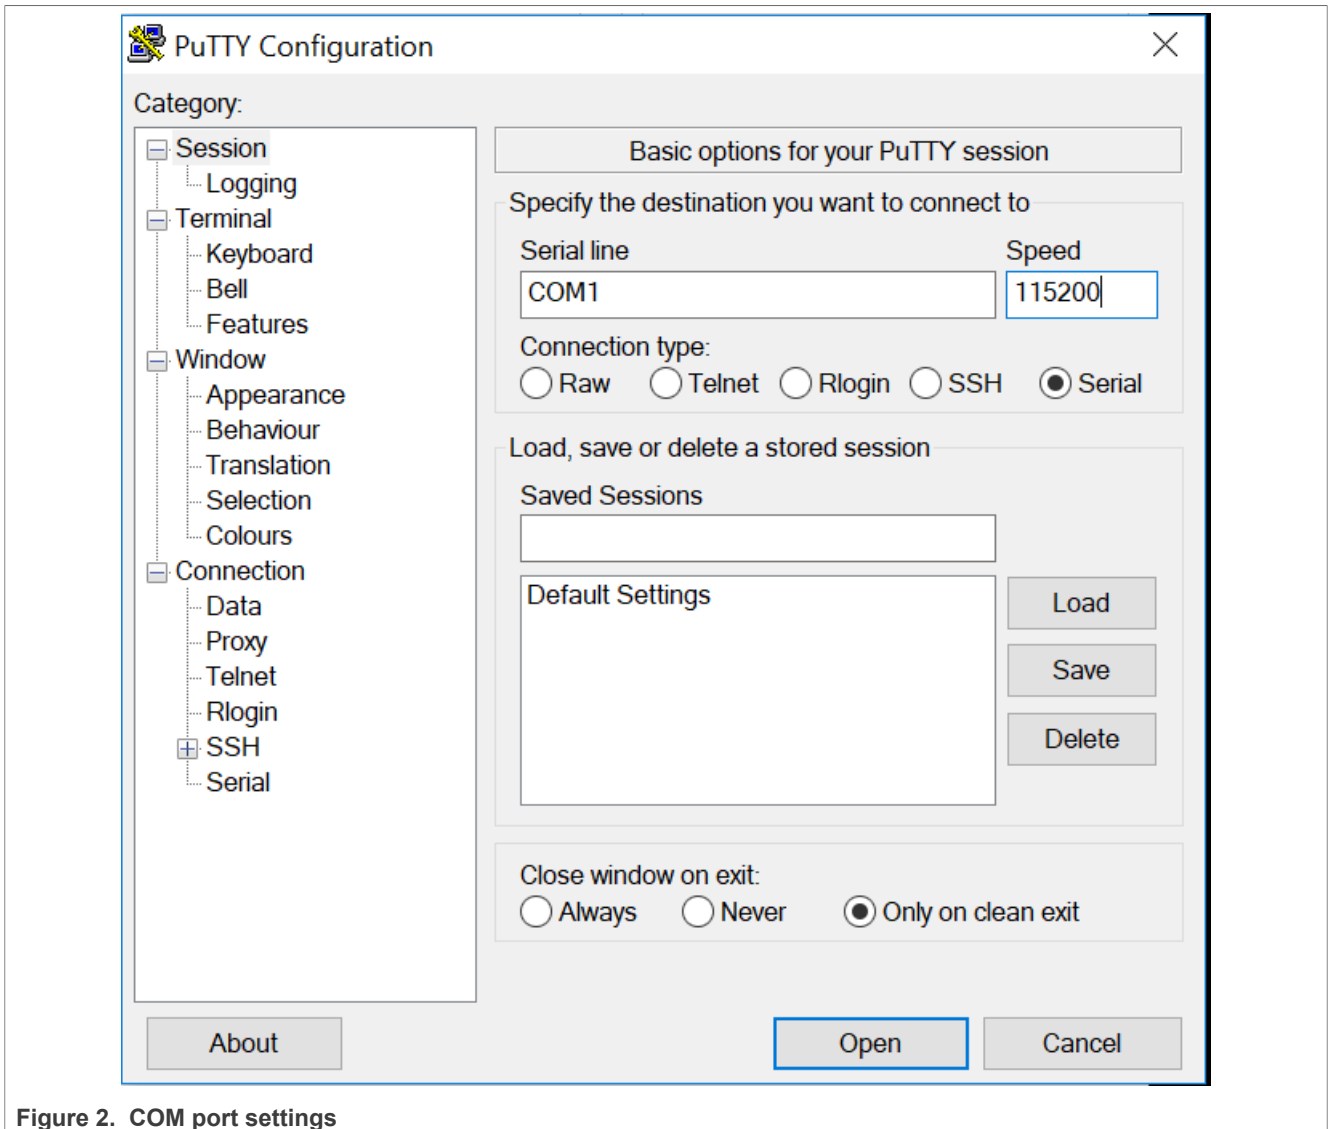

Figure 2. COM port settings
- c. Taking Putty as an example, the COM port setting is as shown in Figure 2.